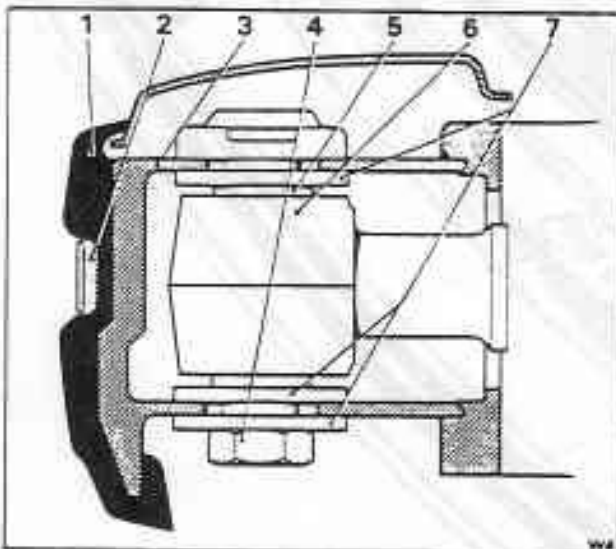

Fig. S14-3 Bumper to adapter mounting arrangement
2. Fit the bumper assembly by securing the adapters to the mounting brackets. On the front end of the adapters, ensure that the spacing washers are in position (see fig. S14-3). Then, check that the bolts securing the front end of the adapters to the bumper are torque tightened to the figures specified in Chapter P.
5. Ensure that the spacing washers are in position above and below the adapters (see fig. S14-3). If necessary, adjustment can be made to the bumper height utilizing these washers (see Bumper height - To check).